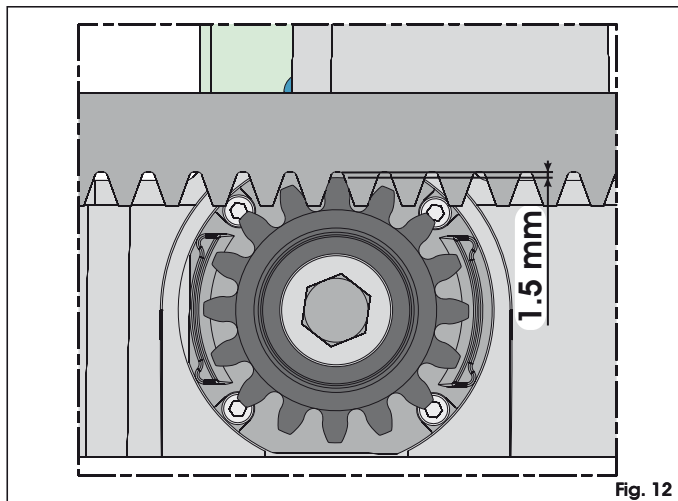

Fig. 12
**⚠ If the gate was recently built, check this play (fig.12) a few months after installation.**